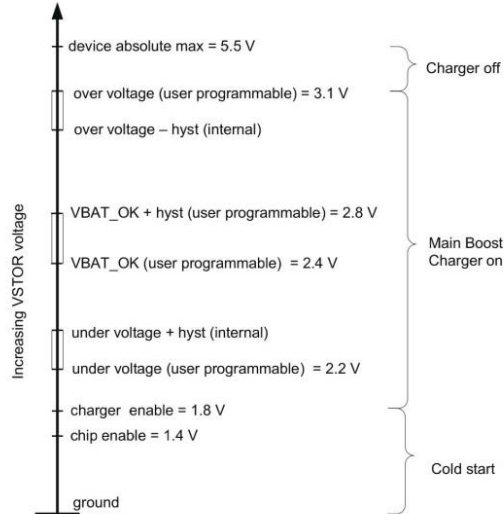

Figure 22. Figure Shows the Relative Position of Various Threshold Voltages (Threshold Voltages are From Typical Solar Application Circuit in Figure 2)
Figure 22 shows the key threshold voltages. The battery management thresholds are explained later in this section.
In this section the battery management functionality of the bq25504 integrated circuit (IC) is presented. The IC has internal circuitry to manage the voltage across the storage element and to optimize the charging of the storage element. For successfully extracting energy from the source, three different threshold voltages must be programmed using external resistors, namely the under voltage (UV) threshold, battery good threshold (VBAT_OK) and over voltage (OV) threshold. The three threshold voltages determine the region of operation of the IC. Figure 22 shows a plot of the voltage at the VSTOR pin and the various threshold voltages. For the best operation of the system, the VBAT_OK should be used to determine when a load can be applied or removed. A detailed description of the three voltage thresholds and the procedure for designing the external resistors for setting the three voltage thresholds are described next.